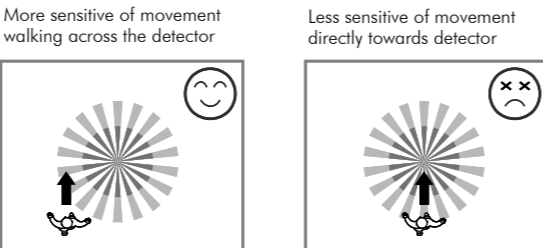

FIG.3
- Pay attention to the walking direction in the test proceeding. It is more sensitive to movement across the detector and less sensitive to movement directly toward to detector which will reduce the detection coverage (See FIG.3).